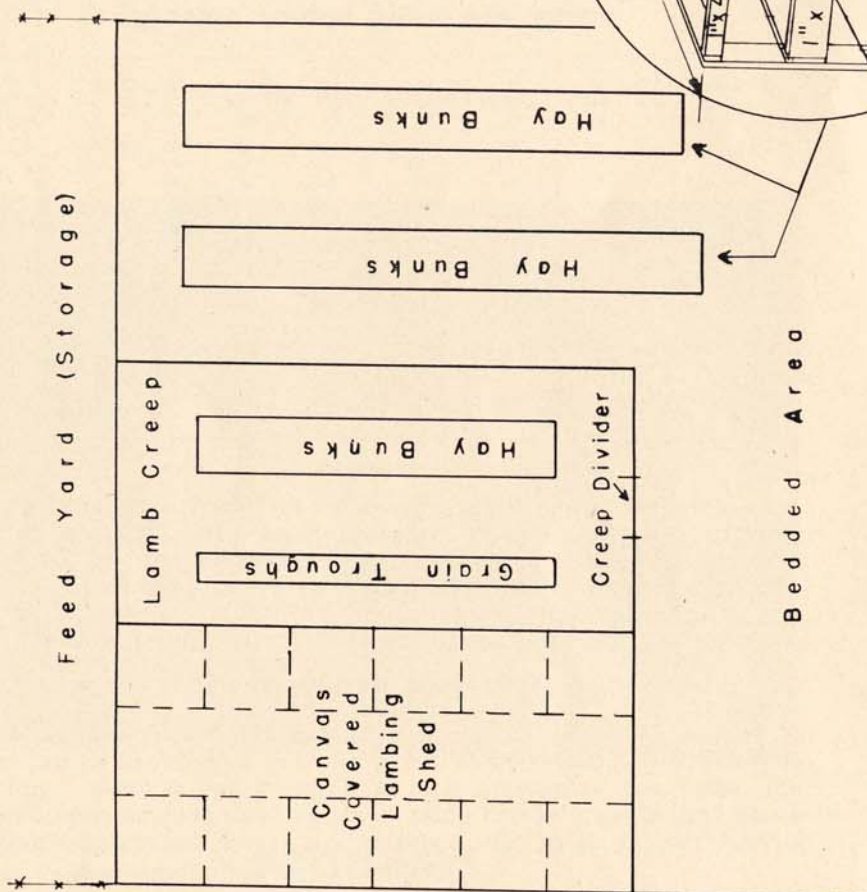

Figure 1
**T**HE corral arrangement, Figure 1, should be located on well-drained land. Expensive equipment is not necessary, but protection from drafts and provision for a dry bed and good ventilation in winter and cold, rainy weather are most important. Plenty of light is necessary for healthy sheep and is a convenience for the proper care and handling of the animals.